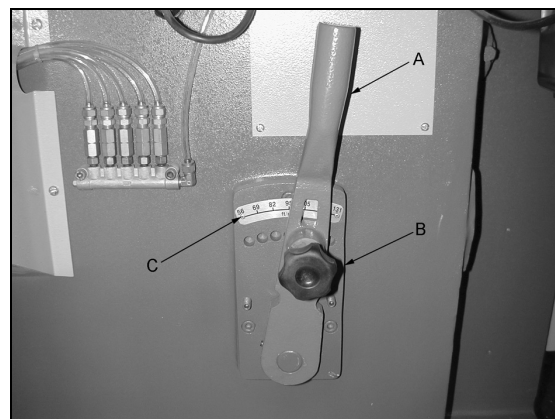

Figure 15
1. To set feed rate pull and twist set knob (B, Figure 15) and move adjust lever (A, Figure 15) to desired speed on scale (C, figure 15). Twist the set knob and allow it to set into the stop hole.
See Figures 15 and 16 for the various lubrication points on the machine. Points are as follows: